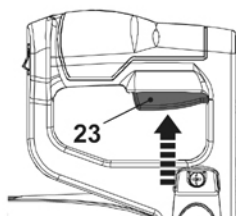

Fig. 12
- > Squeeze the on/off switch (23) to switch the product on (Fig. 12).
- > Release the on/off switch (23) to switch the product off.